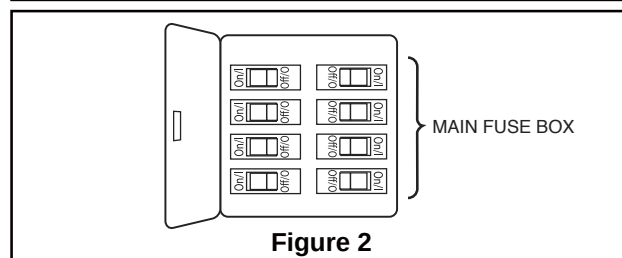
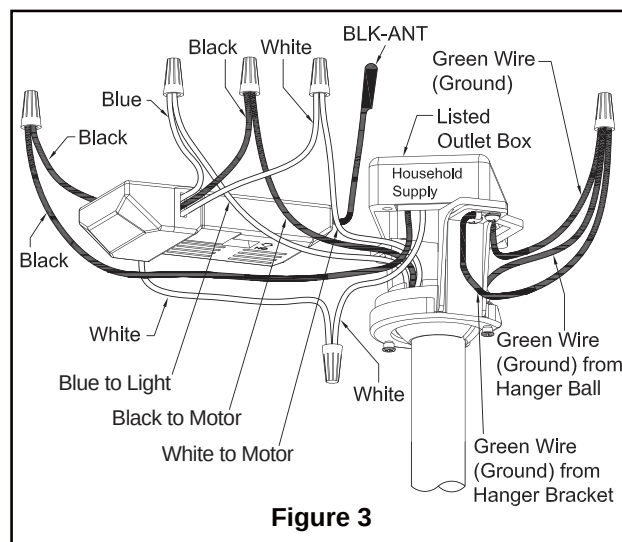

Figure 2
Figure 3
Your new ceiling fan will require a grounded electrical supply line of 120 volts AC, 60 HZ, 15 Amp Circuit. Electrical code requires use of a fan-rated outlet box to support the extra weight and motion associated with a ceiling fan. A fan-rated box will be labeled as such and typically supports up to a 70lbs ceiling fan. Fan-Rated Outlet Boxes vary in ratings and design. Ensure the ratings of your ceiling fan outlet box meet the requirements for the ceiling fan being installed. Figure 1, Figure 2 and Figure 3 depicts different structural configurations that may be used for mounting the outlet box.
Deep-profile use (Figure 2)
Brace use (Figure 3)
- ☐ 2. Remove the hairpin clip and clevis pin from the bottom of the downrod. Retain the pin and clip for reinstallation in Step 4. (Figure 2)
- ☐ 3. Loosen the two set screws and locking nuts in the downrod support of the motor assembly. Route the black, white and blue wires through the downrod. (Figure 3)
The fan must be hung with at least 7' of clearance from floor to ceiling fan. (Figure 2)
1. Securely attach the hanger bracket to the outlet box (not included) using the outlet box screws and washers supplied with the outlet box. (Figure 3)
To avoid possible electrical shock, be sure electricity is turned off at the main fuse box before wiring (Figure 2).
2. Connect green wires from hanger bracket and Downrod / hanger ball assembly to bare (ground) wire using wire connector. Connect black wire from receiver unit marked "AC IN L" to black supply wire using wire connector. Connect white wire from receiver unit marked "AC IN N" to white supply wire using wire connector. Connect white wire from receiver unit marked "TO MOTOR N" to white wire from fan using wire connector supplied with receiver unit. Connect black wire from receiver unit marked "TO MOTOR L" to black wire from fan using wire connector supplied with receiver unit. Lastly, connect blue wire from receiver unit to the blue fan light wire using wire connector supplied with receiver unit. (Figure 3)
- ☐ 2. Securely attach and tighten the canopy screw cover over the shoulder screws in the hanger bracket utilizing the keyslot twist-lock feature. (Figure 2)
- ☐ 2. Restore electrical power to the outlet box by turning the electricity on at the main fuse box. (Figure 2)
3. To make fan operational, install 23A/12V battery (included) in hand-held remote transmitter, with fan power off. Then follow the remote code setting process. (If not used for long periods of time, remove battery to prevent damage to transmitter). Store the remote away from excessive heat or humidity. (Figure 3)
- ☐ 1. Remove six screws and LED assembly on the motor assembly and retain the screws and LED assembly for later. Unplug the 2 pin connector from the LED assembly and motor assembly. (Figure 2) Periodic light dusting of the blades is recommended. A feather duster will work best. Avoid using water, cleansers, or harsh rags, which can warp and ruin the finish.
- ☐ 2. After cleaning the fan, connect the 2 pin connector and reassemble the LED assembly to the motor assembly by previously removed screws. (Figure 3)